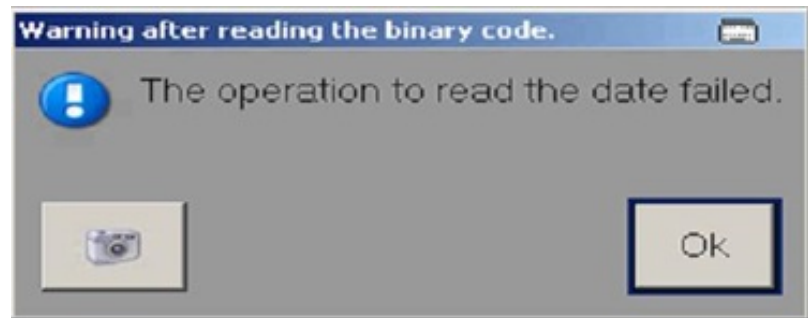

Figure 3. Warning message
6. A message appears with the warning: "The operation to read the date failed." (Figure 3). Select "Ok" to continue.